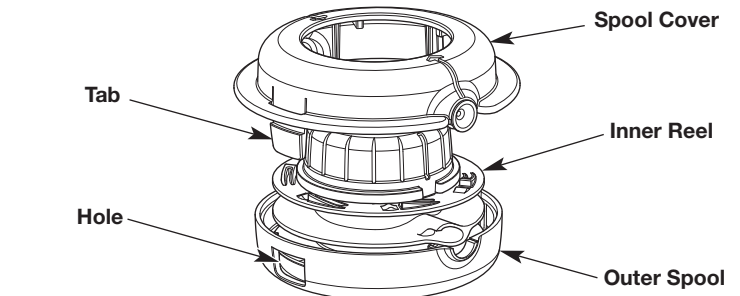

Fig. 16
1. Firmly press in the tabs on the cutting head (Fig. 16).
2. Remove the spool cover (Fig. 16).
4. Use a clean cloth to clean the inner reel, outer spool and spool cover (Fig. 16).
5. Align the tabs on the spool cover with the holes on the outer spool (Fig. 16). Push the spool cover onto the outer spool until the tabs securely snap into the holes.